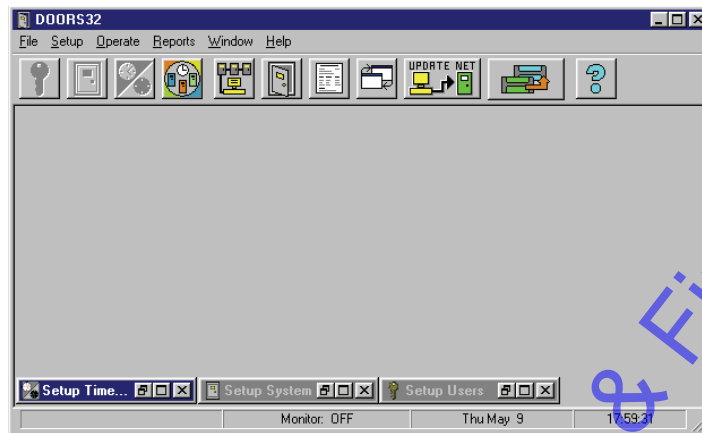

Figure 1-20: Window Icons
1. To reduce a database window to an icon, click on the  box in the upper-right corner of the database window. The individual database windows will be organized in the *Doors* window as shown in Figure 1-20.